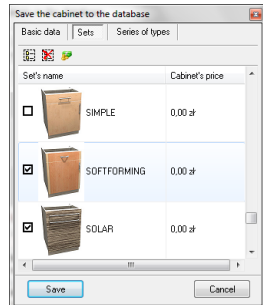
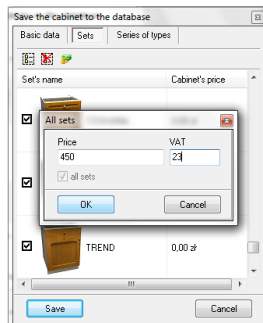

Fig. 198 – assigning the cabinet to sets
Fig. 199 – setting the price
- in the **Sets** tab (Fig. 198) it is possible to assign a cabinet to the selected sets in the database (e.g. with wanted front patterns), and set the price for the cabinet – identical for all sets or individually (Fig. 199);